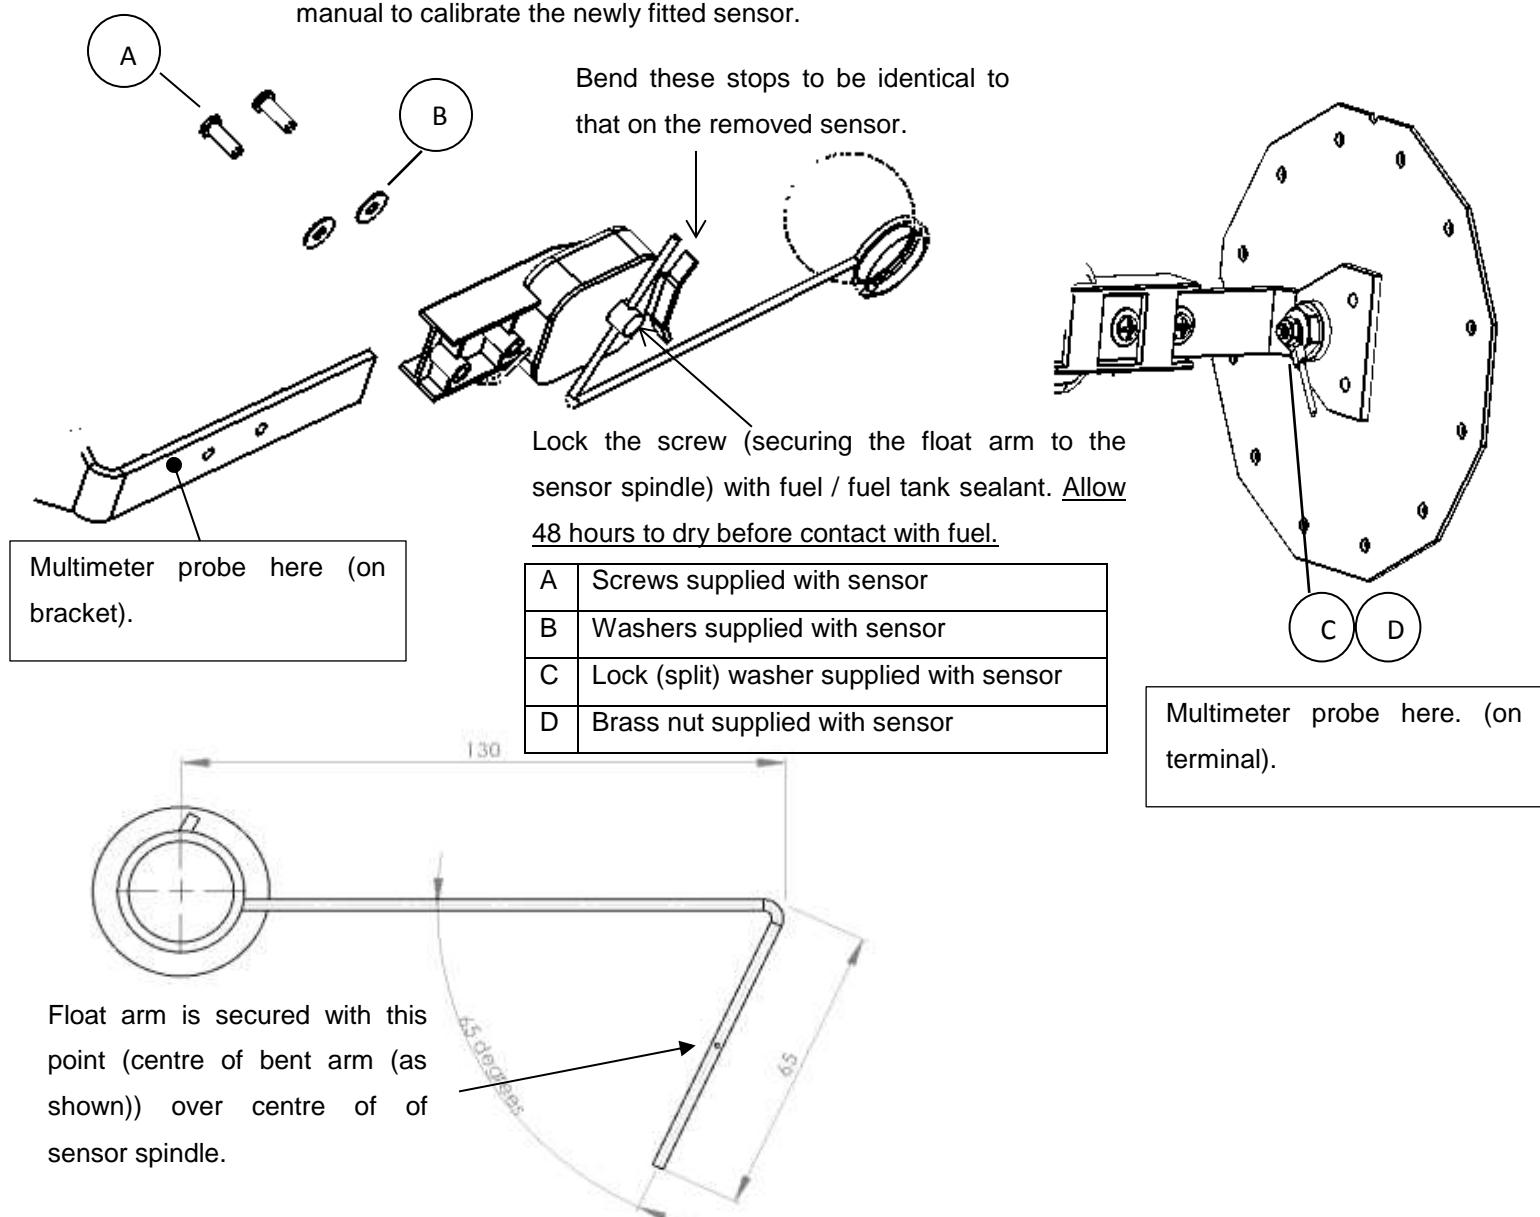

Figure 65: Fuel level sender assembly sensor replacement.
- Observe correct washer placement (refer to Figure 65).
- The sensor is fitted to the bracket with the spindle pointing away (in opposite direction) from the 90 degree bend / plate / part of the bracket attached to the hexagonal tank cover / sender assembly plate, i.e. spindle will face to rear when level sender assembly is installed in fuel tank. See Figure 65.
- (a) The float arm must be fitted to the new sensor with the same point (centre of bent part of arm) on the arm (as was over the centre of the spindle of the removed sensor) over the centre of the sensor spindle (refer to Figure 65). Use the marks made (during disassembly) on the float arm to assist in positioning the float arm before securing it to the sensor spindle.
- (b) Bend the float arm stops (refer to Figure 65) on the replacement sensor to be identical to that on the sensor which was removed.
- Wind the signal wire (1) tightly and securely around the bracket (2) and sensor (3) as shown below, without damaging or distorting / stretching it unnecessarily. Route the signal wire as shown and tie wrap (4) the bundle as shown. Cut the excess tie wrap strap off.
2. Use a multimeter set to measure resistance (set to the  $200 \Omega$  range setting, if available or higher) to measure the range of the sensor, with the float arm first flush against one stop and then rotated to lie flush against the other stop (refer to Figure 65). The range measured should be between  $> 0 \Omega$  and  $< 200 \Omega$  (approximately  $8 \Omega$  to  $192 \Omega$ ). Measuring an open circuit with the float arm flush against any one of the stops indicates that the sensor wiper has moved off the sensor board pick-up and indicates that the stops are not correctly bent. Bend the stops to exactly match those of the sensor previously removed!